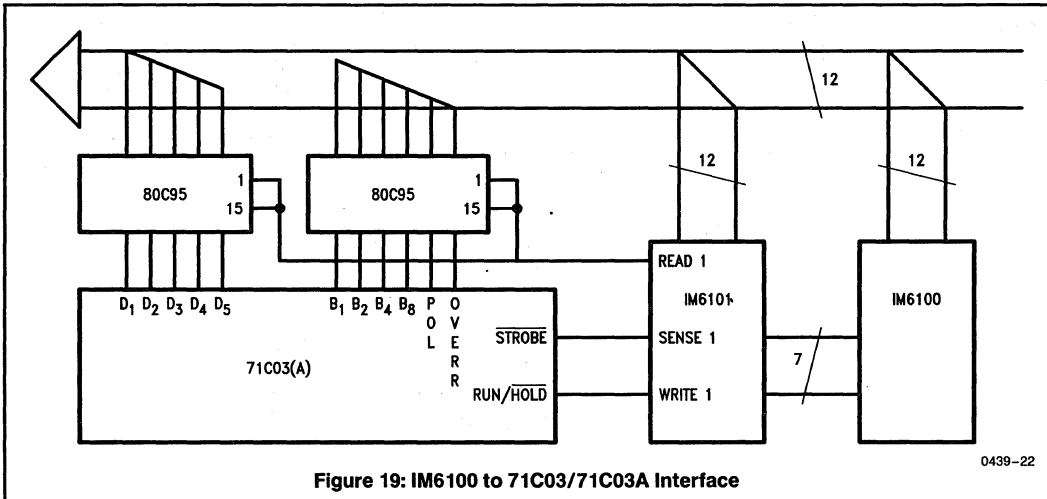

Figure 19: IM6100 to 71C03/71C03A Interface
Circuits to interface the 71C03(A) directly with three popular microprocessors are shown in Figures 19, 20 and 21. The main differences in the circuits are that the IM6100 with its 12 bit word capability can accept polarity, over-range, under-range, 4 bits of BCD and 5 digits simultaneously where the 8080/8048 and the MC6800 groups with 8 bit words need to have polarity, over-range and under-range multiplexed onto the Digit 5 word—as in the UART circuits. In each case the microprocessor can instruct the A/D when to begin a measurement and when to hold this measurement.